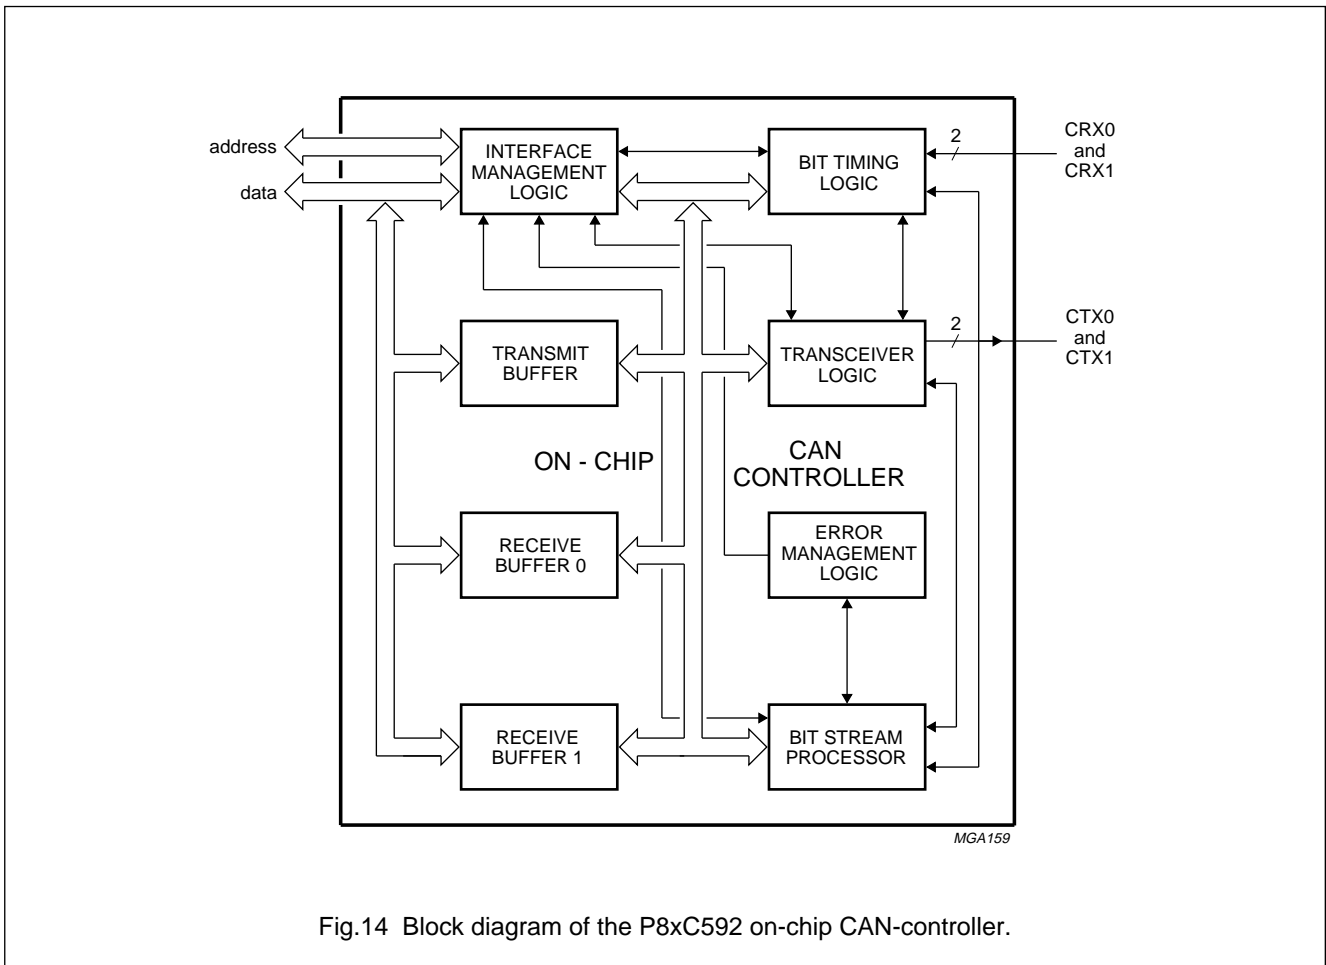

Fig.14 Block diagram of the P8xC592 on-chip CAN-controller.
The P8xC592 CAN-controller contains all necessary hardware for high performance serial network communications (see Fig.14 and Table 29).
**Table 29** Hardware blocks of the CAN-controller (see Fig.14)